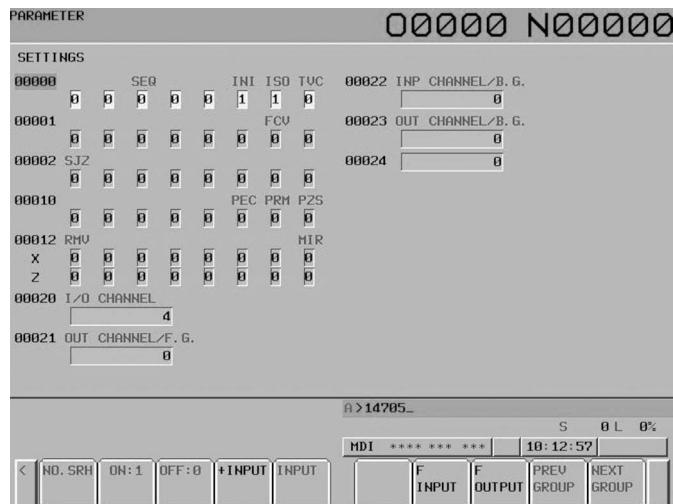

Figure 7-3 SYSTEM
4. Use the keyboard arrow and page keys to position to the desired parameter input location (Figure 7-3). To search to a specific parameter number, enter the number and press the NO. SRH soft key.